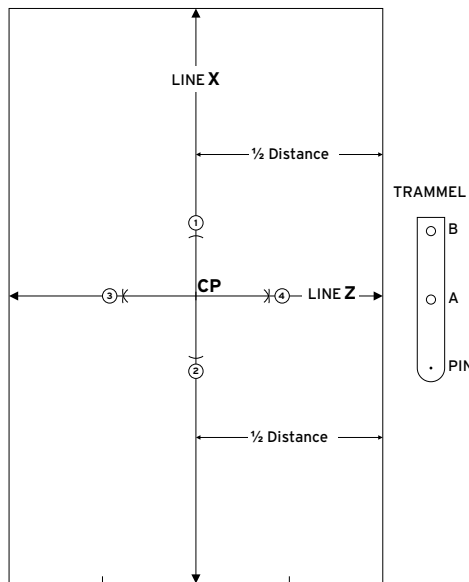

Figure 5.2
5.6.2 Setting out and installation for straight tiling (Refer to Figure 5.2)